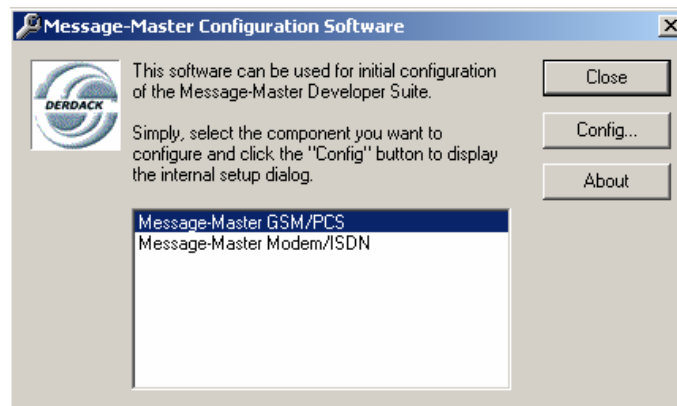

Figure 4.19. DERDACK Message Master Configuration Software Dialog Box
Step 5: Click the **Modem Configuration** button to open the **DERDACK® Message Master™ Configuration Software** dialog box, shown in **Figure 4.19**. Select whether you wish to use modem/ISDN or GSM/PCS service for paging.